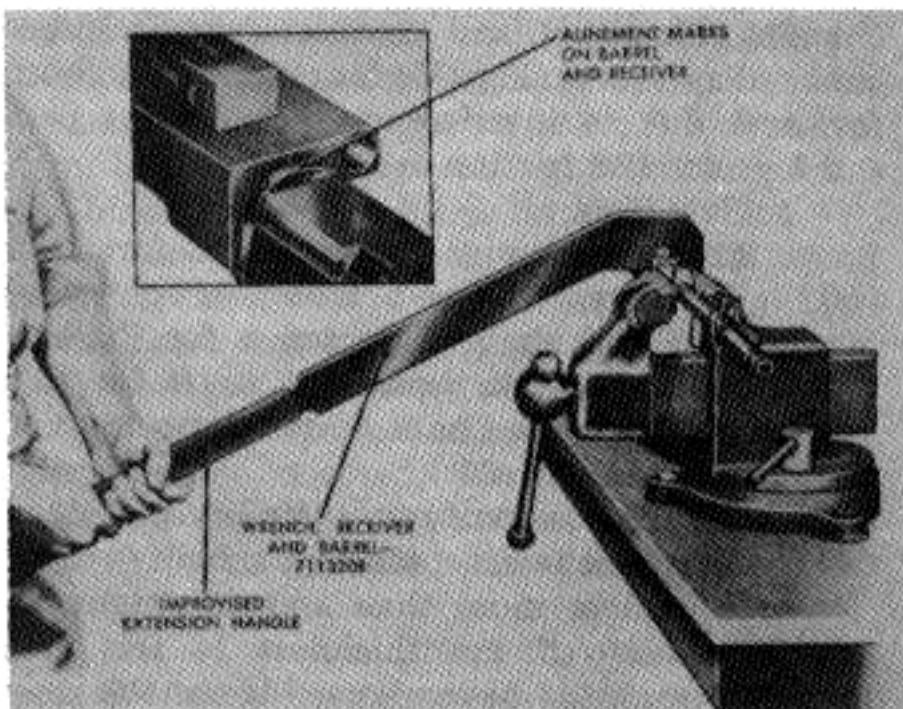
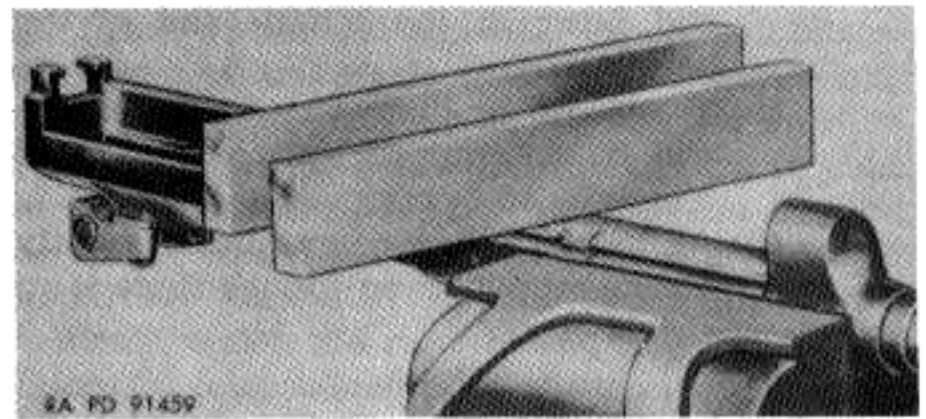

Figure 91. Assembling barrel to receiver.
Figure 92. Checking barrel and receiver alignment.
a. Replacing Barrel. Select proper barrel and receiver combination so that about 1/16-inch draw is obtained when assembled. Screw the receiver on the barrel with receiver and barrel wrench 7113308 draw up receiver until alignment marks on barrel and receiver (Fig. 91) coincide. Then determine that the flat surfaces on bottom of barrel and receiver are parallel. Check this by indicator or placing two bars, about 10 inches long, in position as illustrated in figure 92; and sight over the edges. When the two bars lie parallel, the barrel and receiver are in exact alignment for proper functioning.